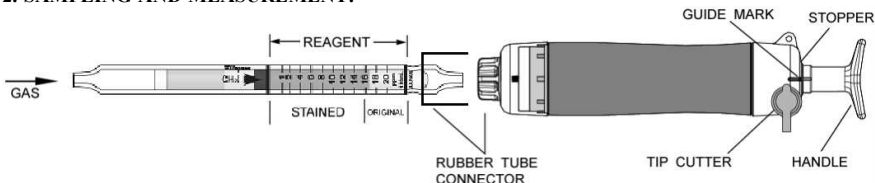

Fig.1
- ① Break both ends of the detector tube.
- ② Insert the detector tube into the aspirating pump securely as shown in Fig.1. (Arrow mark shall point to the pump.)
- ③ Align the guide marks on the shaft and stopper of the aspirating pump.
- ④ Pull the pump handle at a full stroke until it locks and wait for 1.5 minutes or until the completion of sampling is confirmed with the flow indicator of the pump. (See descriptions about the flow indicator in the instruction manual of the pump.)
- ⑤ On completion of sampling, read the scale at the maximum point of the stained layer.
- ⑥ When the concentrations are below the scale range, 2 pump strokes can be used to determine these lower concentrations.
- ⑦ When the concentrations are over the scale range, a 1/2 pump stroke can be used to determine these higher concentrations.